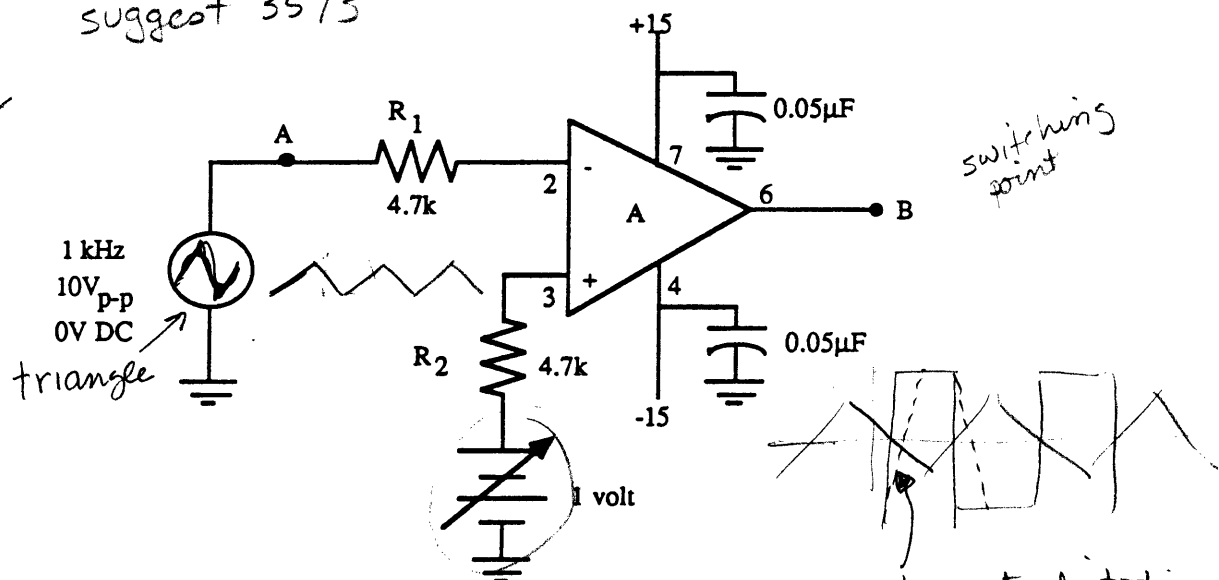

Figure 1 - Comparator circuit
- (1) Build the comparator circuit of Fig.1.
- (2) Display points A and B simultaneously on the oscilloscope and record each waveform in Table 8.1.
- (3) Carefully note the phase difference between A and B and note the two switching points.
- (4) Set the DC offset to +3 V. To do this, set the scope channel connected to point A to 2 V/cm. A +3 V DC offset will make the triangle wave jump up 1.5 cm when the mode is switched from AC to DC.
- (5) Record the waveforms in Table 8.2 and make note of the phase difference between A and B.
- (6) Repeat step 5 for a DC offset of -3 V.